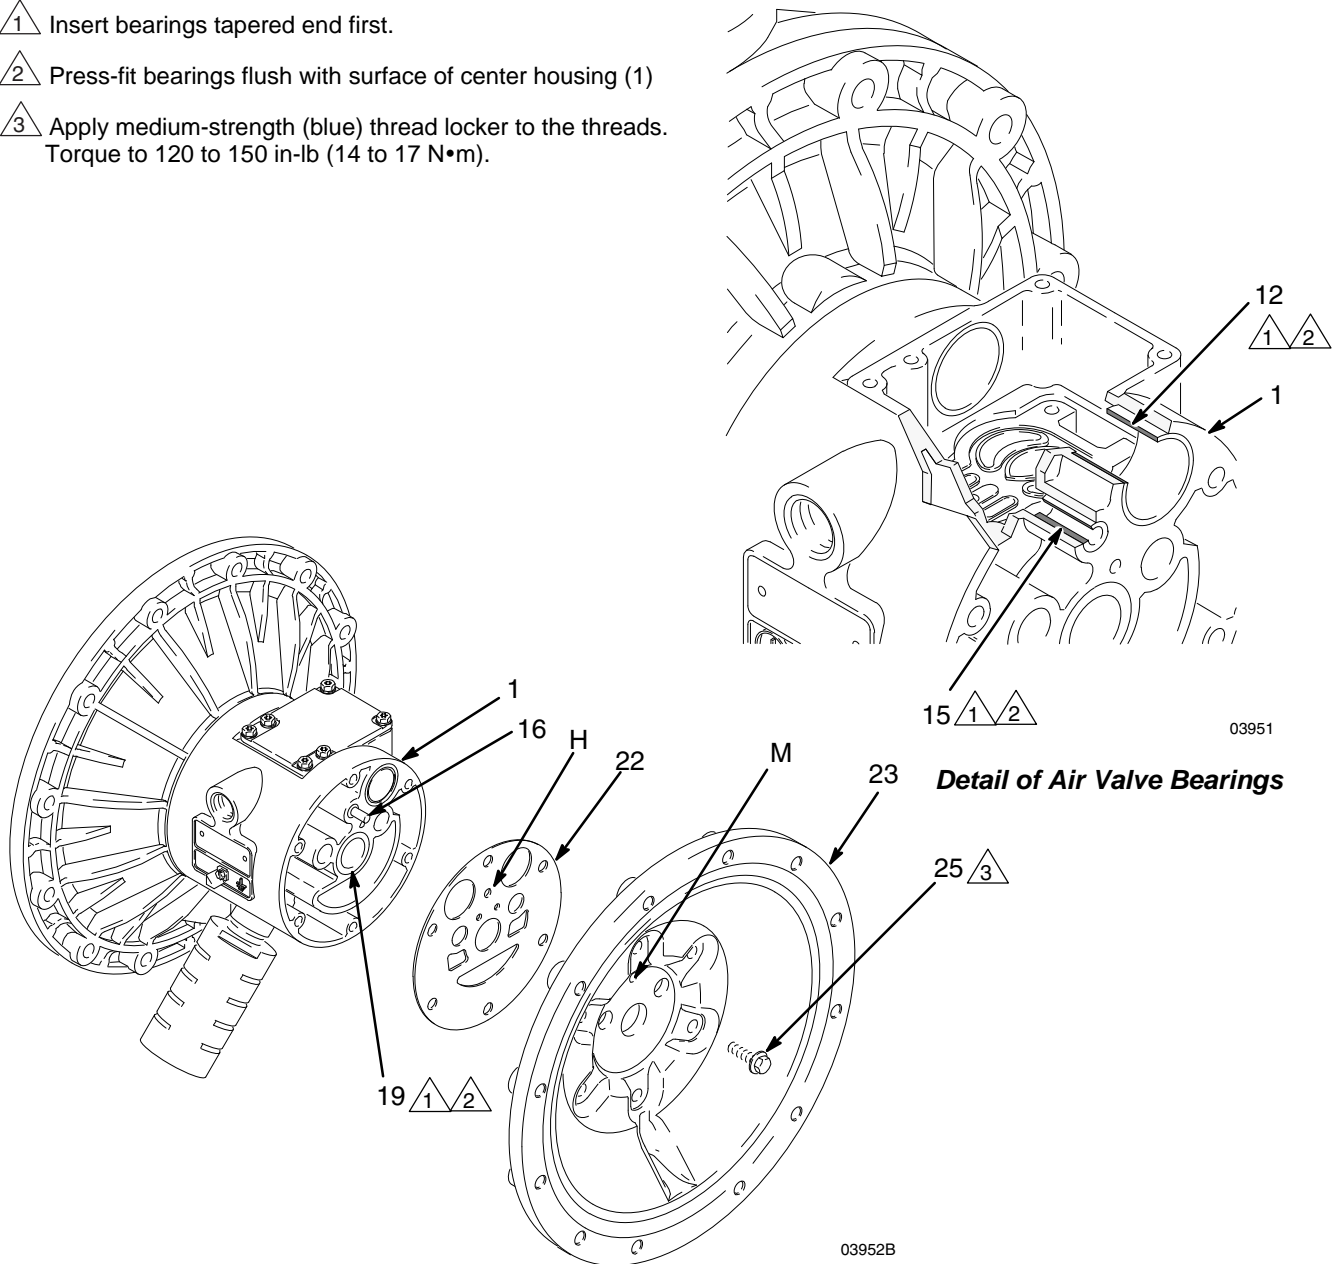

FIG. 13
5. Using a 10 mm socket wrench, remove the screws (25) holding the air covers (23) to the center housing (1). See FIG. 13.
6. Remove the air cover gaskets (22). Always replace the gaskets with new ones.
7. Use a bearing puller to remove the diaphragm shaft bearings (19), air valve bearings (12) or pilot pin bearings (15). Do not remove undamaged bearings.
1. If removed, install the shaft u-cup packings (402*) so the lips face **out** of the housing (1).
2. The bearings (19, 12, and 15) are tapered and can only be installed one way. Insert the bearings into the center housing (1), **tapered end first**. Using a press or a block and rubber mallet, press-fit the bearing so it is flush with the surface of the center housing.
4. Align the new air cover gasket (22) so the pilot pin (16) protruding from the center housing (1) fits through the proper hole (H) in the gasket.
5. Align the air cover (23) so the pilot pin (16) fits in the middle hole (M) of the three small holes near the center of the cover. Install the screws (25), handtight. See FIG. 13. Using a 10 mm socket wrench, torque the screws oppositely and evenly to 120 to 150 in-lb (14 to 17 N•m).